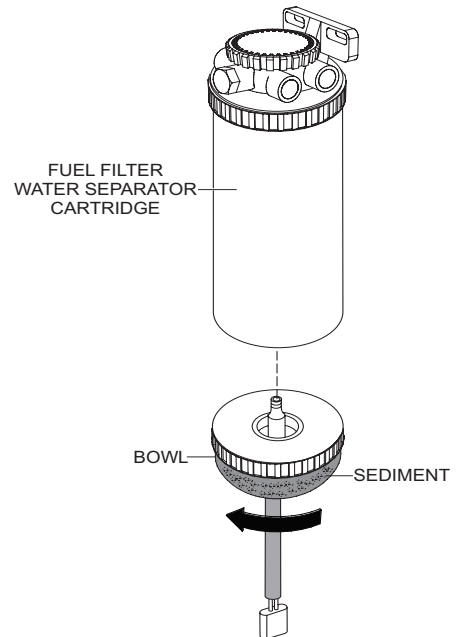

Figure 71. Sediment Bowl
1. Remove the sediment bowl from the fuel water separator cartridge as shown in Figure 71.